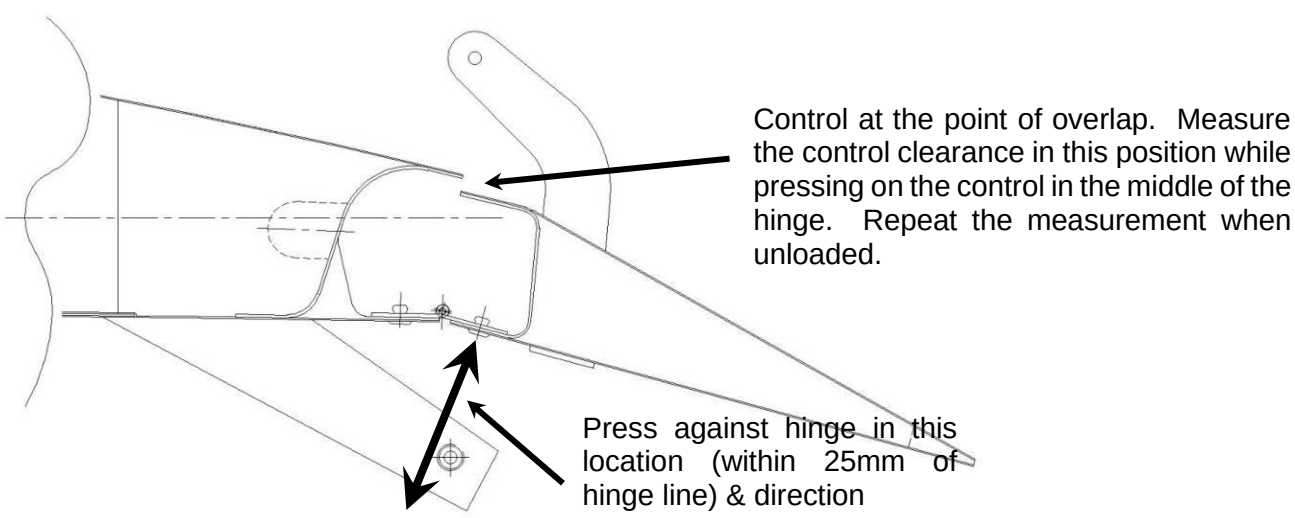

Figure 22 – Test Load Application (all J-Series)
- Controls are to be tested this way at every hinge. The force to be applied in each direction is approximately 5-7kg (11 – 15lb). Inspectors can “calibrate” their thumbs by pushing onto a set of scales to indicate how hard they need to push. See Figure 22 for details of where to push on the controls.